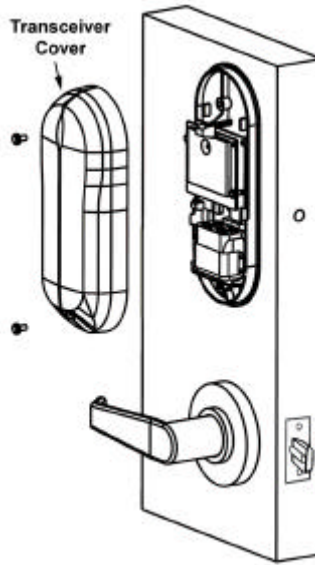

Figure 2-37 – MIRL Transceiver Cover
- 2.20.3 Install the MIRL Transceiver Cover and fasten with two secure T-10 TORX Transceiver Cover Mounting Screws (6-32 x 3/8") using the T-10 TORX L-key that is provided (Figure 2-37).